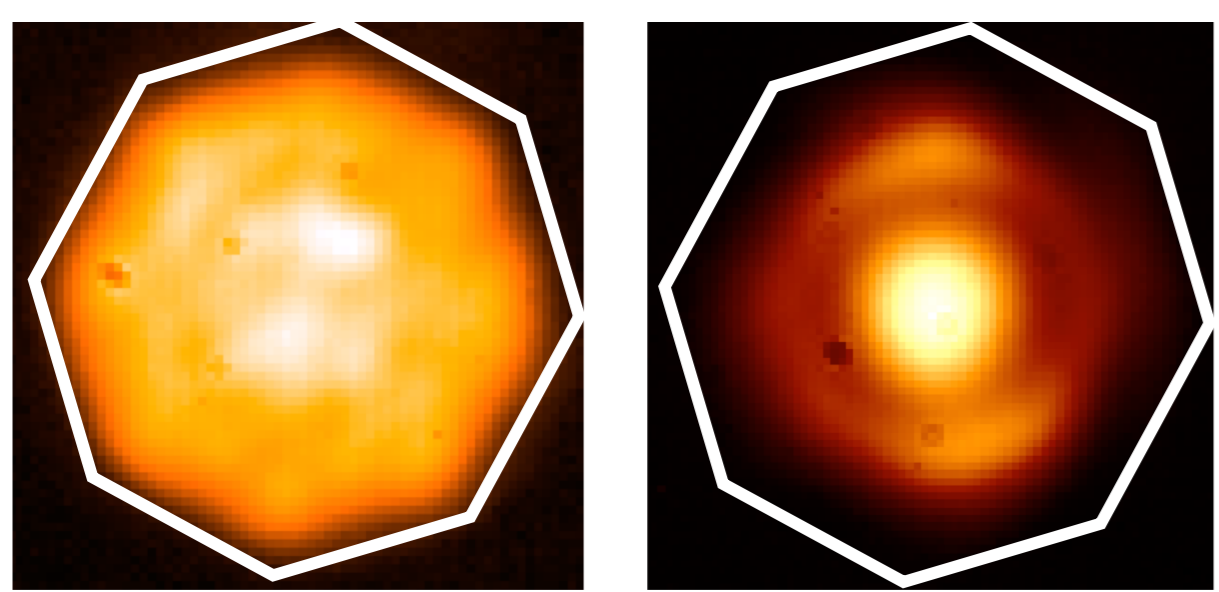

Fig. 2 - Near-field of 50-mode ($\lambda=950\text{nm}$) and 15-mode ($\lambda=1650\text{nm}$) octagonal fiber when injecting in core center.
- Ray tracing does not apply anymore!!! (Fig. 2)